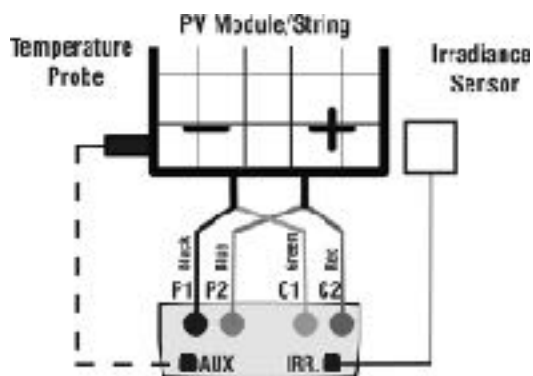

Fig. 7a: Instrument connection to module/string FV
20. Connect the meter to the module/string under test as shown in Fig. 7a. In particular, connect the negative output pole of module/string to P1, C1 input terminals and the positive output pole of module/string to P2, C2 input terminals. In **Auto** activation mode is recommended the use of KITKELVIN optional accessory